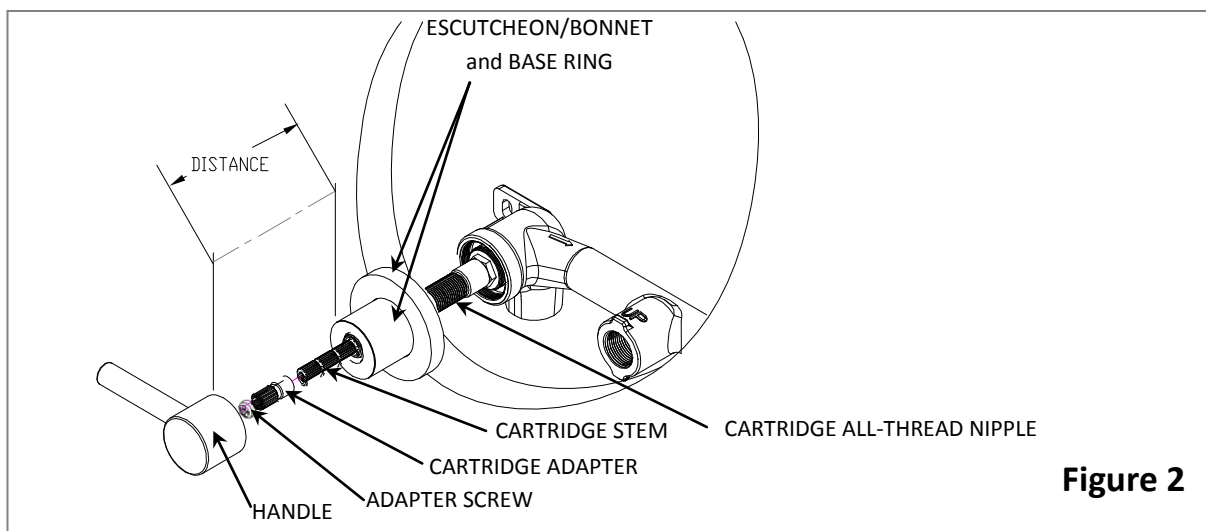

Figure 2
- Figure 2**, install ESCUTCHEON/BONNET and BASE RING trim pieces onto CARTRIDGE ALL-THREAD NIPPLE flush against Finished Wall. Mark the CARTRIDGE ALL-THREAD NIPPLE where excess needs to be trimmed.
- Also in **Figure 2**, temporarily install HANDLE onto CARTRIDGE ADAPTER and measure DISTANCE between top of ESCUTCHEON/BONNET and bottom of HANDLE. Record the DISTANCE measured.